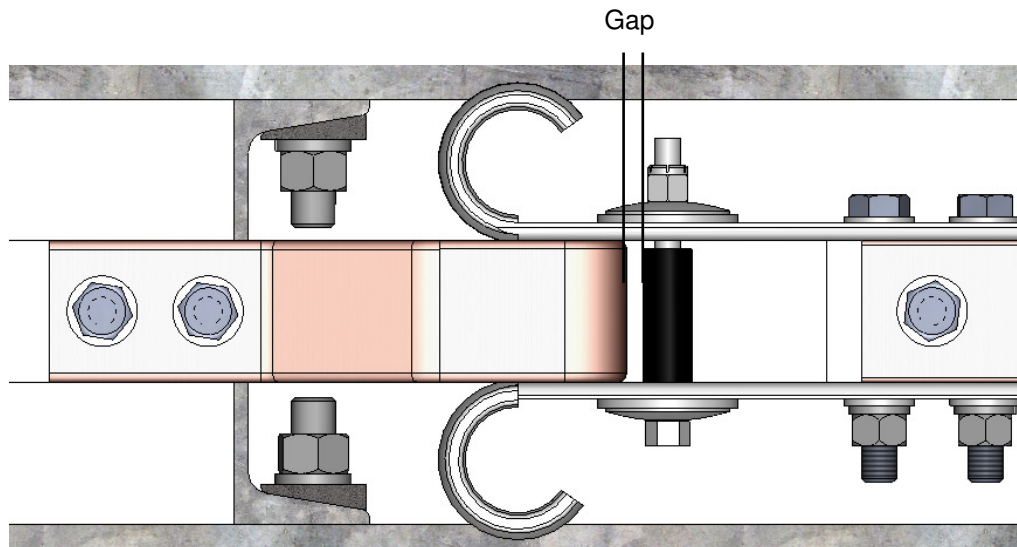

Figure 5. Blade Tip Clearance
- 2.1.3. The blade tip must be within 1/16-inch of the blade stop, as seen in **Figure 5**.